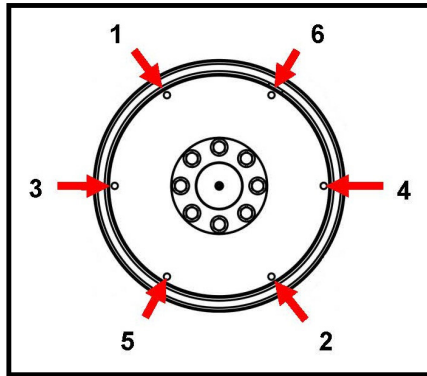

FIGURE 22. FIXING SEQUENCE
10. Tighten the bolts to fix the coupling disc to the flywheel in the sequence shown in Figure 22 on page 36.